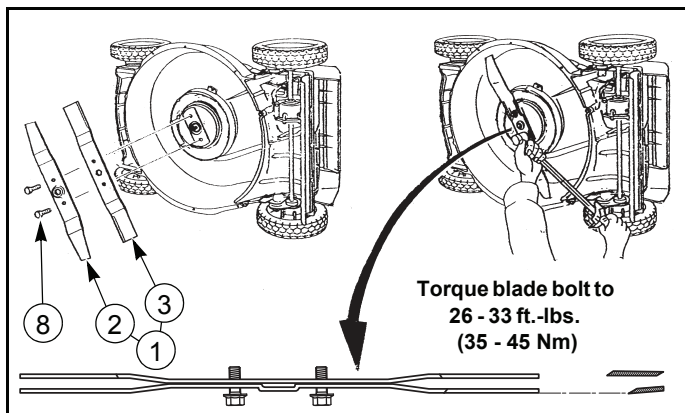

Fig. 4-13
2. Remove the normal cutting blade and replace with mulching blades ①. Use the bolts ⑧ supplied with the mulching blades. The regular bolts will be too short. Torque blades to 26 - 33 ft.-lb. (35-45 Nm). Fig. 4-13